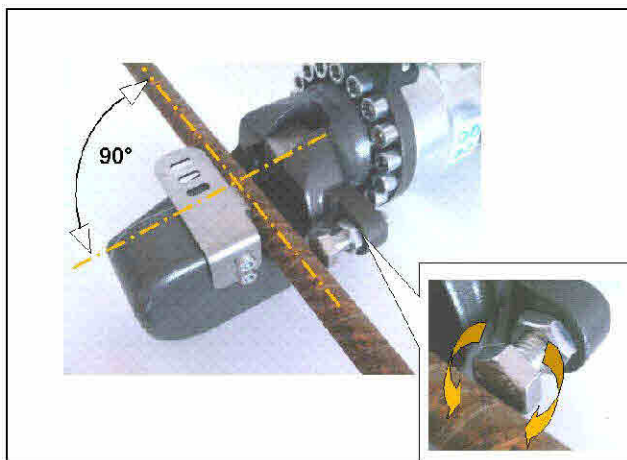

Fig. 3A
Position the blade perpendicular to the axis of the work piece (fig. 3A).
- Place the workpiece against the fixed blade and check screw of the head to ensure it is perpendicular to the machine axis (Fig. 3A). If necessary, adjust the check screw as indicated in Fig. 3A;